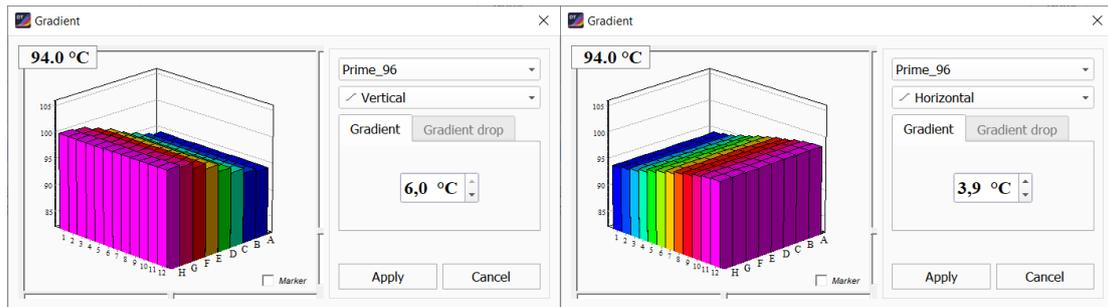

Figure 16 – "Gradient" window: a – vertical; b – horizontal
4. Set the temperature of the front edge of the thermal plate to select a vertical gradient (fig. 16, a) or of the right edge of the thermal plate to select a horizontal gradient (fig.16, b).